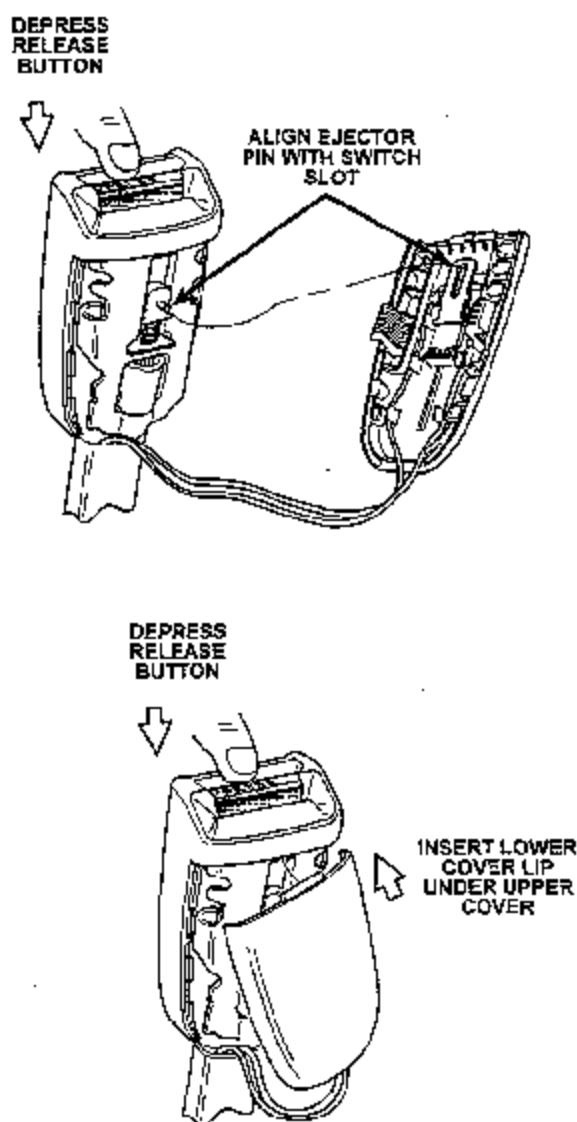

FIGURE 13
20. While depressing the release button, assemble the lower cover to the upper cover by inserting the lip on the lower cover under the upper cover, then snapping the two parts together (Figure 13).